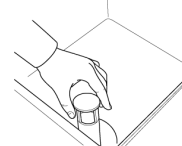

Fig.38
- 2- Open the door and remove the water flow device and close the door. (Fig.38)